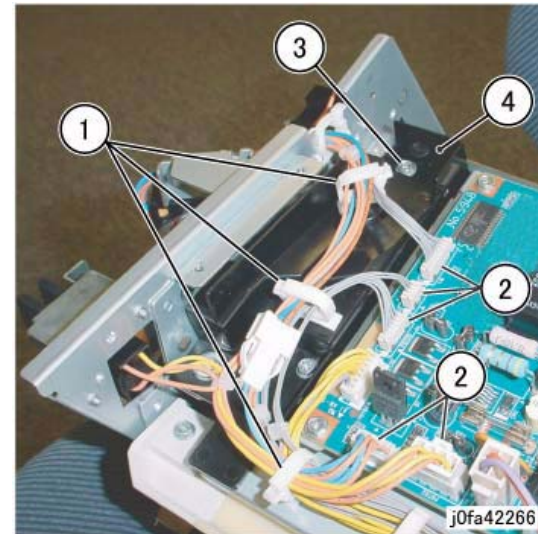

Figure 1 Removing the Connector Bracket (j0fa42266)
6. Remove the Connector Bracket. (Figure 1)